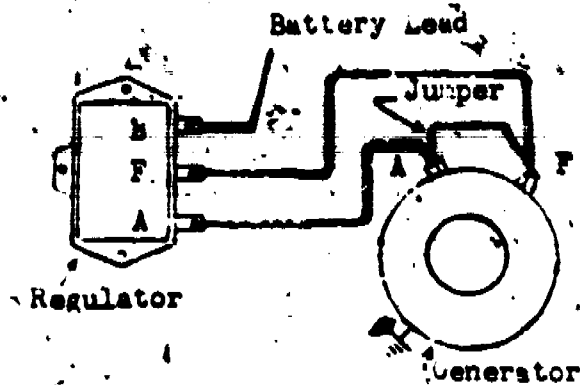

Figure 8. Connections for Making Generator Output Test ("B" Circuit).
- a. Connect leads as shown in figure 8.